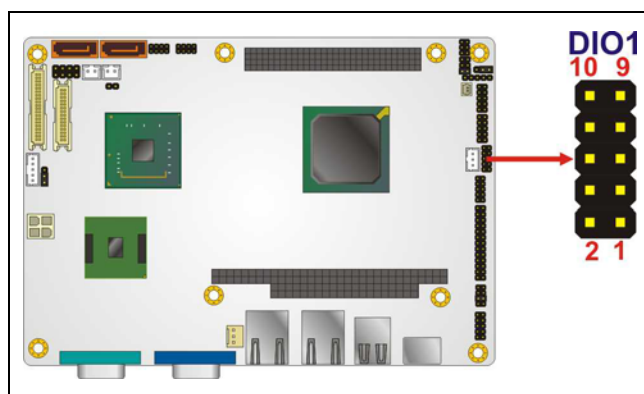

Figure 3-9: DIO Connector Locations
- CN Location:** See **Figure 3-9**